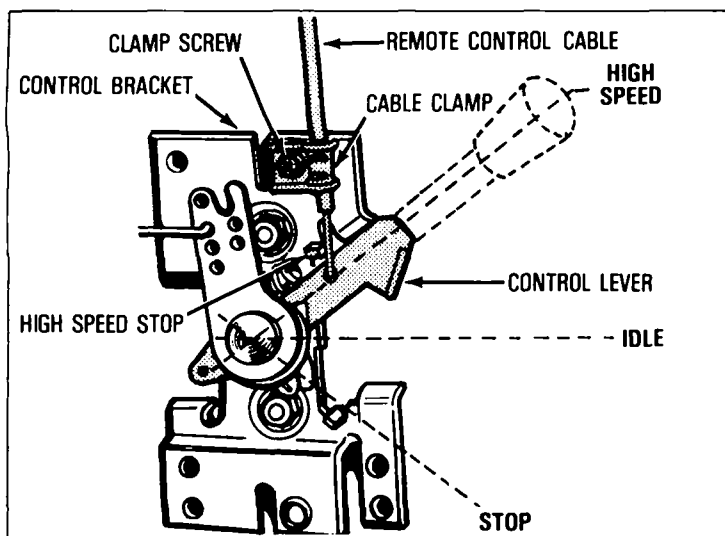

Figure 8
① REMOTE CONTROL (see Figure 8):